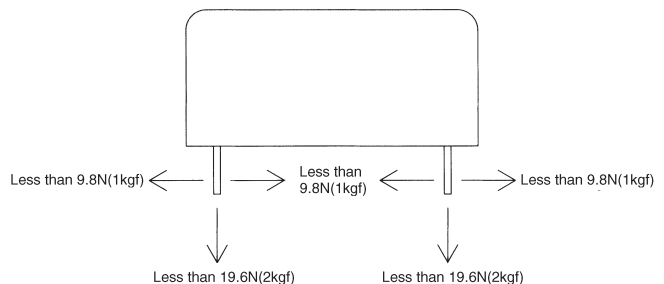

Fig.8.1 Stress onto the pins
- When too much stress is applied on the input/output pins of the unit, the internal connection may be weakened. As below Fig.8.1, avoid applying stress of more than 9.8N (1kgf) on the pins horizontally and more than 19.6N (2kgf) vertically.